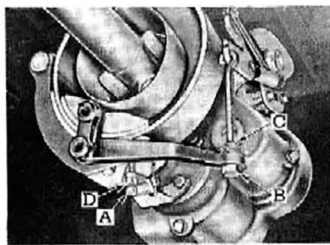

Fig. 38—Propeller Shaft Brake
2. Loosen lock nut "D" and draw up adjusting bolt "A" (fig. 38) to secure clearance between outer shoe facing and brake drum of .010"-.015" measured at a point directly above bolt "A." Then hold bolt and tighten lock nut securely.